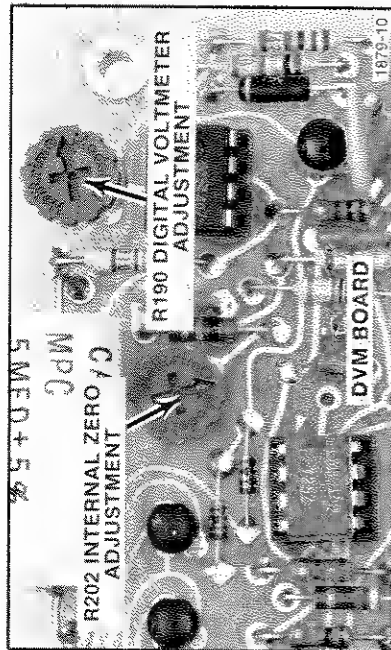

Fig. 13. Location of Internal Zero and Digital Voltmeter adjustments.
- Adjust Internal Zero (R202) in the same manner as Step 2 (b). The location of R202 is shown in Fig. 13
- Adjust R190 until the J16 readout displays a reading which matches the reading on the external Digital Voltmeter. See Fig. 13 for location of R190.